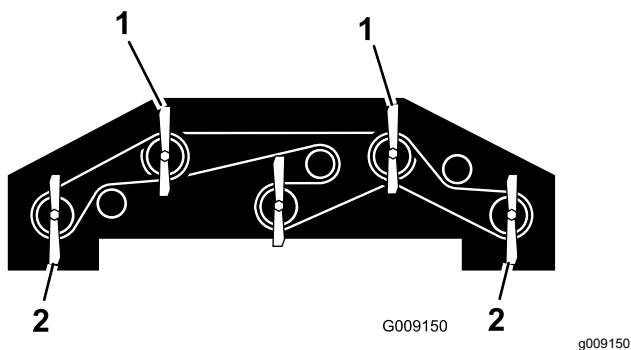

Figure 138
1. Rotate each blade so that they point straight forward (Figure 138).